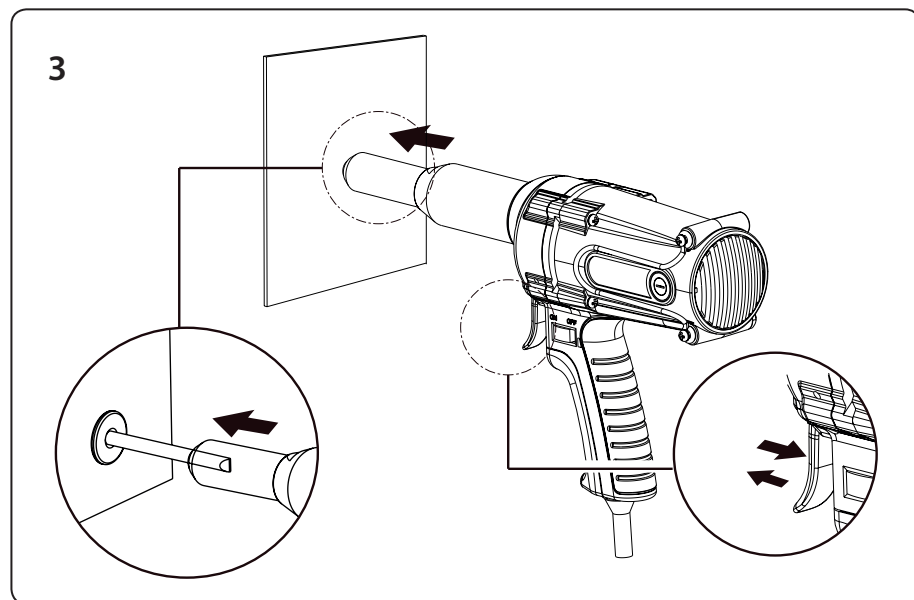

Fig.5
- c) Insert the rivet mandrel into the hole in the rivet bolt in the rivet gun and press and immediately release without holding down the trigger of the gun, see step 3, fig. 5. The trigger of the gun must not be held down.